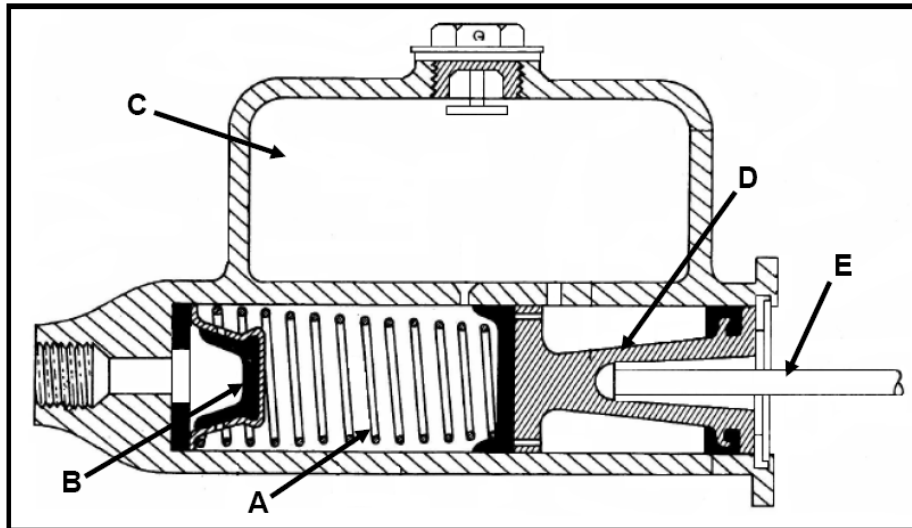

FIGURE 11.2
- 11.2 FIGURE 11.2 below shows the hydraulic brake master cylinder unit of a motor vehicle. Label A–E in the diagram.